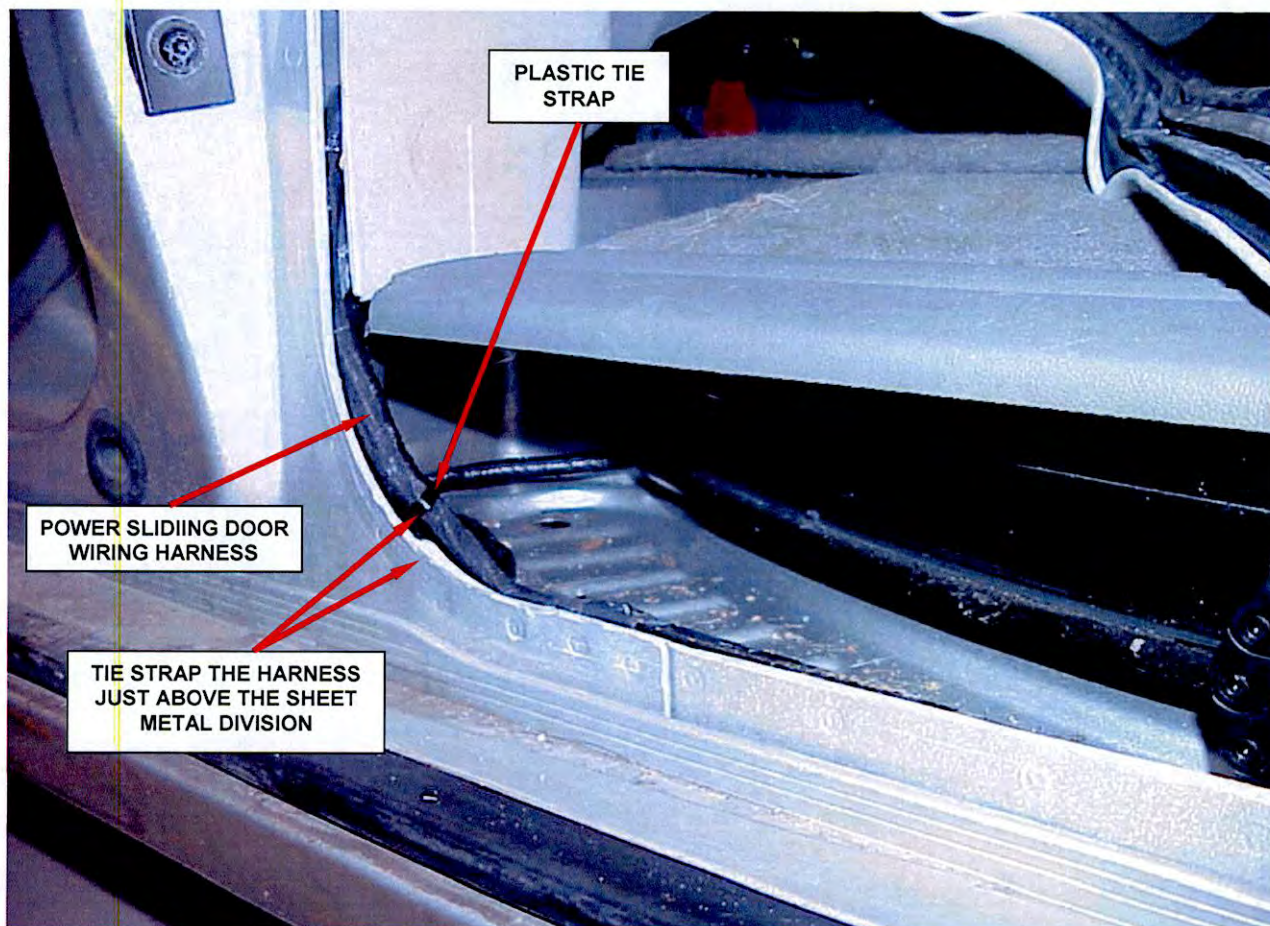

Figure 9 – Tie Strap and Wiring Harness Location
1. Using the supplied plastic tie strap, secure both harnesses together as shown in Figure 9. The power sliding door wiring harness must be routed to the rear (in car position) of the drive motor wiring harness.